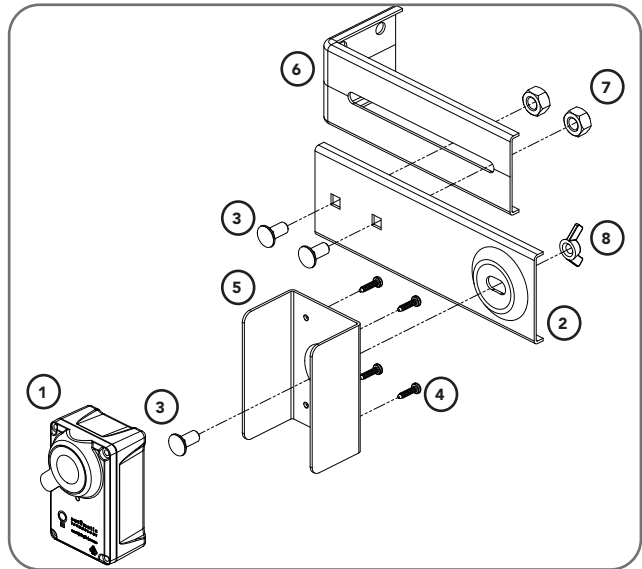

Fig.6.4.1
- Place the round screw (3) through the Bracket (5). Attach the Safety Beam Transmitter (TX) using four (4) M3 x 5 Taptite screws (4) (Fig. 6.4.1).
- Connect the mounting bracket (2) to the Bracket (5) using the wing nut (8) onto the round screw (3). Secure the adjustment bracket (6) to the mounting bracket (2) using two (2) screws (3) and nuts (7).
- Repeat steps (a) and (b) to assemble the Safety Beam Receiver (RX).